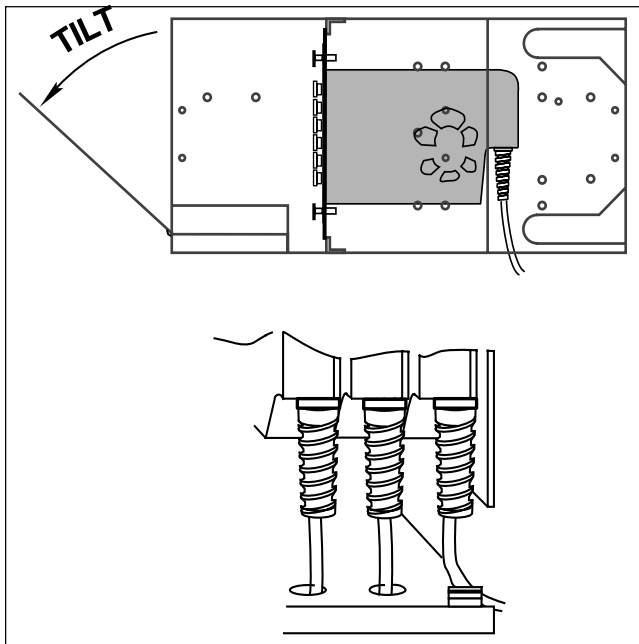

Figure 9
10.1 The pigtail fibers can be routed from the patch panel area to the splice area through holes on the floor or ceiling of the cabinet or through cable entrance ports on the side (Figure 9).